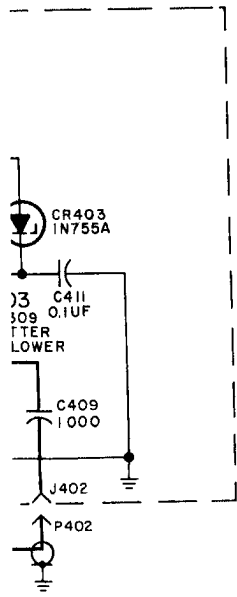

Figure 5-1. Electronic Frequency Converter, Overall Schematic Diagram
b. OVERALL SCHEMATIC DIAGRAM. - Figure 5-1 is an overall schematic diagram of the equipment. The major signal paths are indicated by heavy lines and the direction of signal flow by arrows.